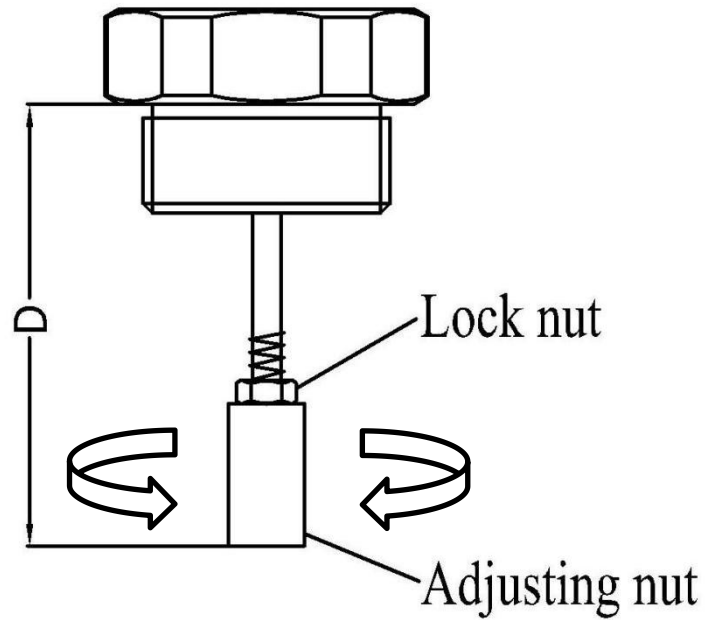

Figure 6. Travel sensor adjustment and measurement
- Adjust the adjusting nut of the displacement sensor. Then measure the D value (as shown in Figure 6) by **the depth ruler** in the state of the displacement sensor being completely loosened. Calculate the compression value $L1 = D - C1$, $L2 = D - C2$. It is recommended that the compression value L1 and L2 are both in the reference range which is showed in Table 1. If L1 value or L2 value is unable to meet the reference range, adjust the D value according to the actual situation.